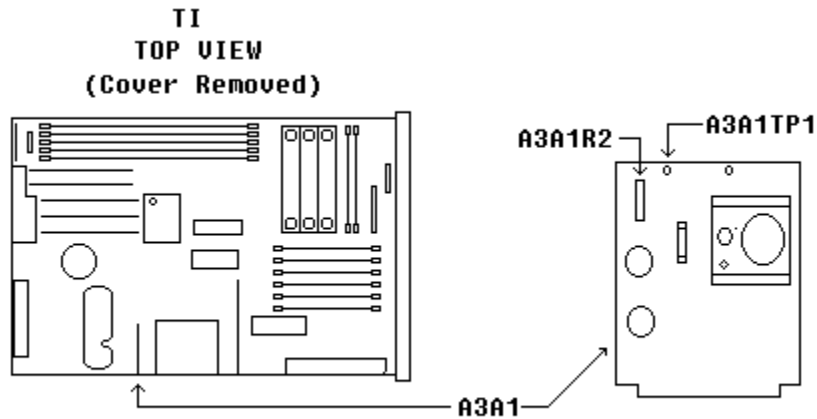

Figure 16. A3A1 card.
(1) Connect digital voltmeter to A3A1TP1 and chassis (fig. 16). If digital voltmeter does not indicate between +21.98 and +22.02 V dc, perform **b**(1) below.
- (1) Adjust A3A1R2 (fig. 16) for an indication of +22.00 V dc on digital voltmeter (R).